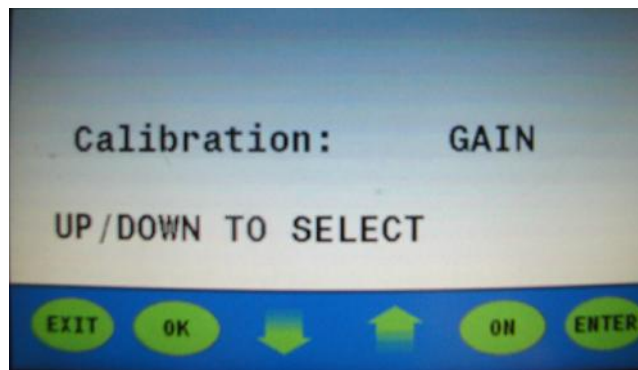

Figure 18
- 18. Press the up or down arrow to select "GAIN" and then press ENTER. **(Figure 18)**